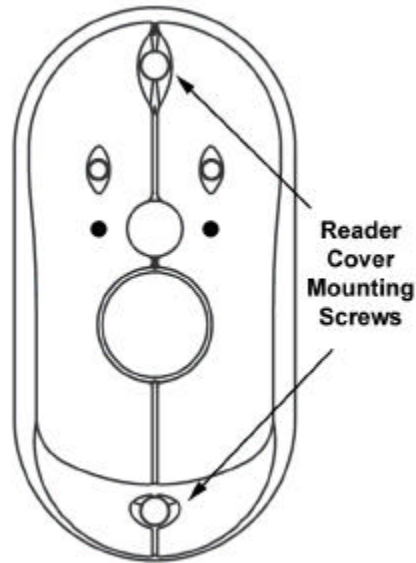

Figure 2-8 – Reader Cover Screws
- 2.7.1 If install, remove the Reader Cover by removing the two secure Torx Reader Cover Mounting Cover Screws (6-23 x 3/8") (Figure 2-8).